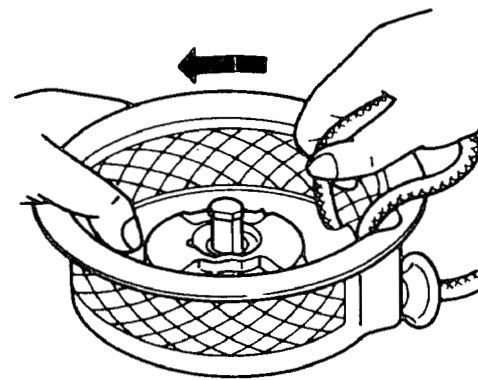

FIG. 84
(3) Before putting the reel in the starter case, wind the starter rope in the arrowhead direction as shown in Fig. 84, and at 2.5 windings take out the rope from the reel notch. Set the reel hook to the inner end of the spring, and put the reel in the starter case. (At this time, confirm that the reel hook is duly set to the spring.) Then, hold the starter rope as shown in Fig. 84, and turn the reel 4 times in the arrowhead direction. When wound up, firmly press the reel not to allow reverse turn, and pull the starting knob. Then, pull out from the starter case the starter rope utilized for winding, and slowly return the starting knob.